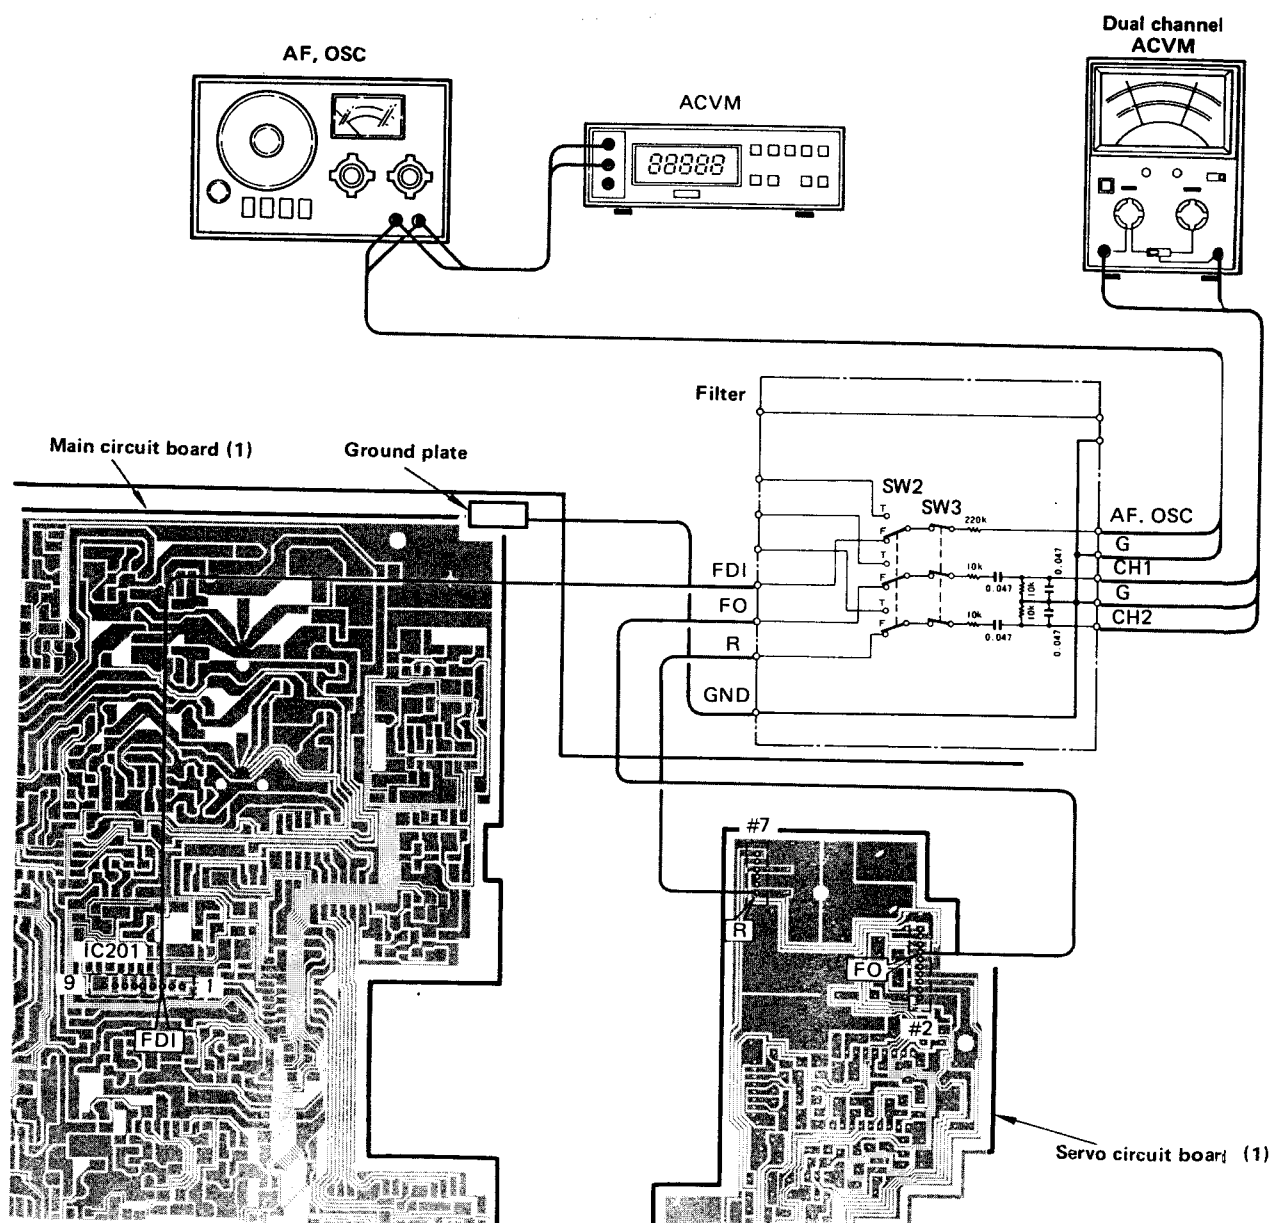

Fig. 1
- ① Connect the filter and measuring instruments, as shown in Fig. 1.